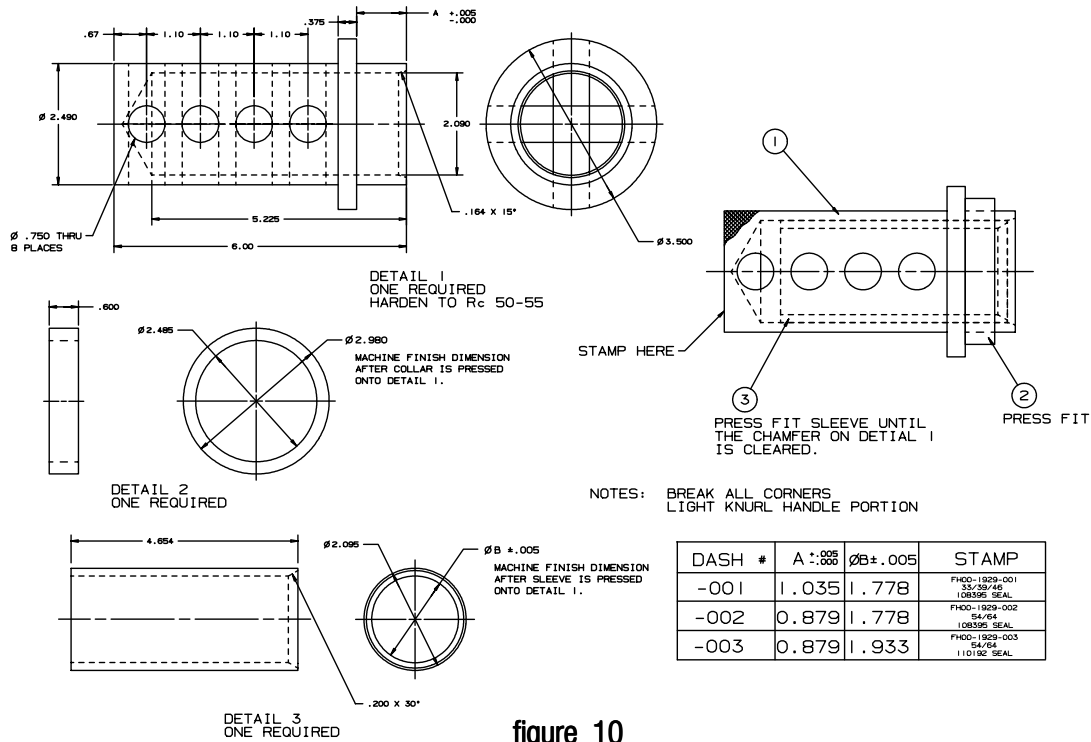

figure 10
- 4 Using the installation tool (see figure 10) and a mallet, push the seal until the tool bottoms on the mounting flange.